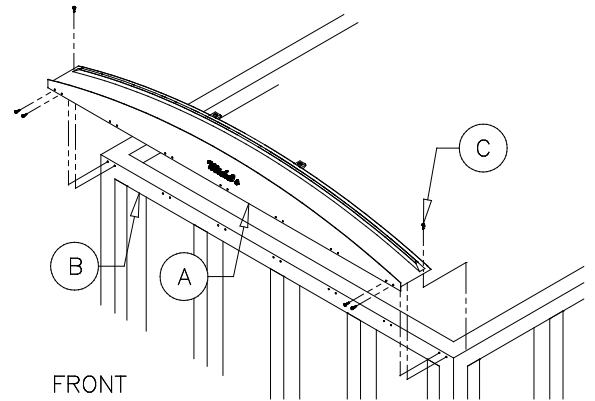

Figure 1
**Procedure:** Center the front hood on the front wall of the trailer with the lower 1-inch flange (A) positioned flush against the outside front edge of the trailer. If the hood is notched on the front corners then the hood is to be positioned flush against the inside front edge of the trailer. Using a 3/16" drill bit, drill 14 holes through the 1-inch flange and into the box wall (B) placing 2 holes at approximately every 15 inches (see Figure 1). Secure the front hood to the trailer using the 1/4"x1" lag screws (C) provided. Drill through the top portion on each side of the front hood and secure using 1/4"x1" lag screws (C).